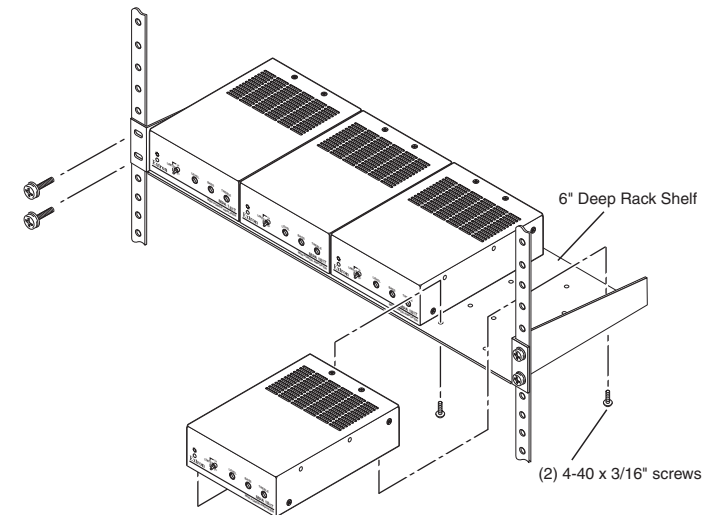

Figure 2-1 — Rack mounting the MPA 181T
2. Mount the unit on the rack shelf, using two 4-40 x 3/16" screws in opposite (diagonal) corners to secure the MPA to the shelf. See figure 2-1 below.